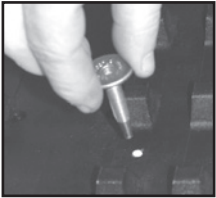

Figure 1
1. Push the stud through the hole from the inside of the track. (figure 1)